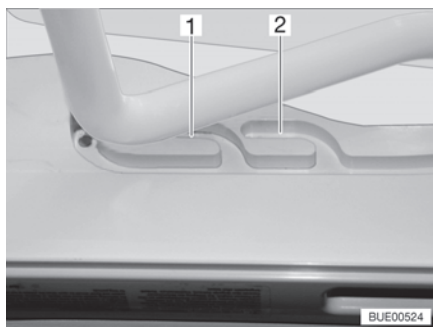
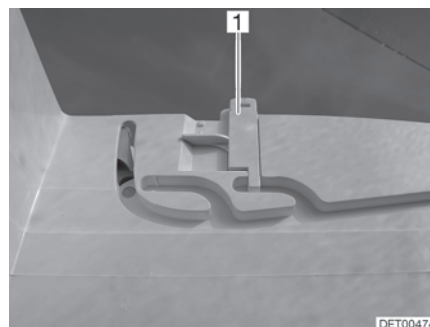

Fig. 22 Guide (ventilation position)
Fig. 23 Lock (ventilation position)
The Heki skylight can be put in two ventilation positions: Bad weather position (Fig. 22,1) and central position (Fig. 22,2). Depending on the model, the skylight can be locked in the central position with both left and right latches (Fig. 23,1) on the skylight frame.
- Push the bar slightly upwards and into the selected guide (Fig. 22,1 or 2) and lock if necessary.